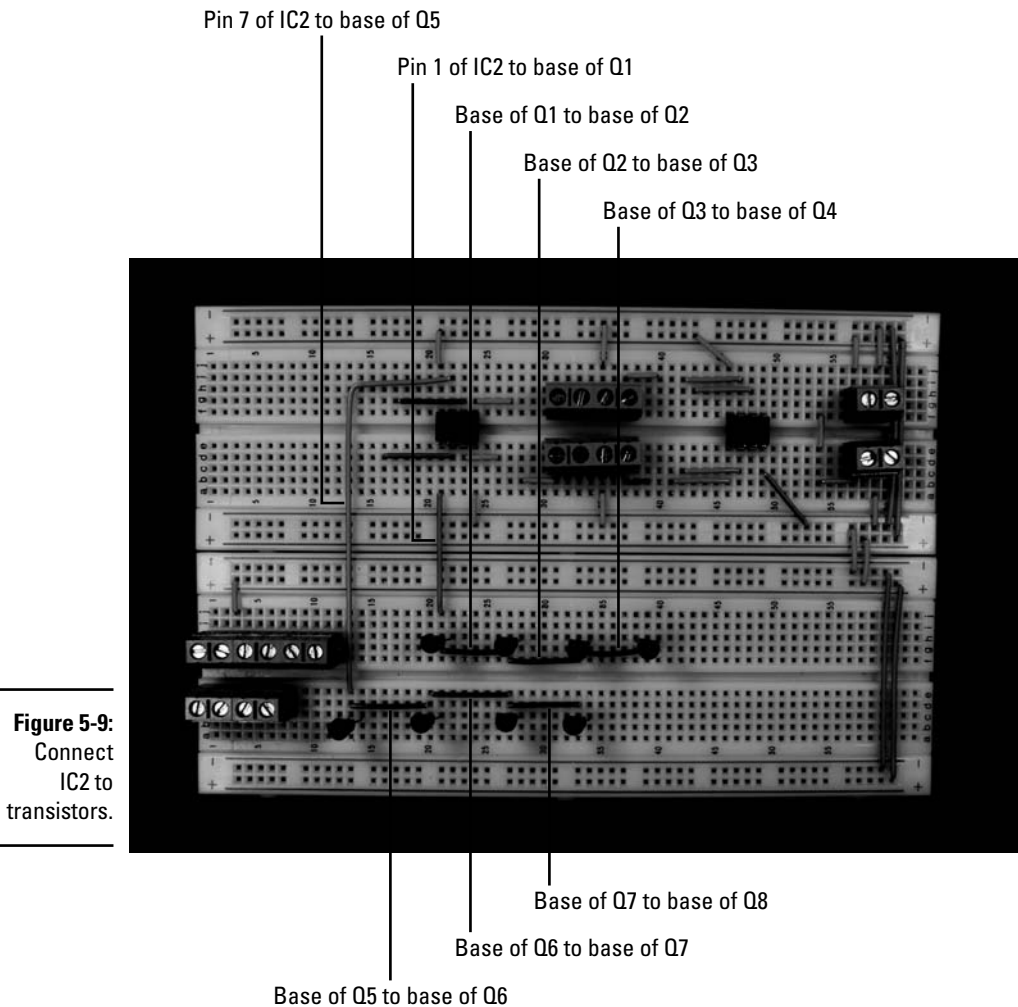

Figure 5-9:
6. Insert wires to connect IC2 to the transistors and the base pins of the transistors to each other, as shown in Figure 5-9.